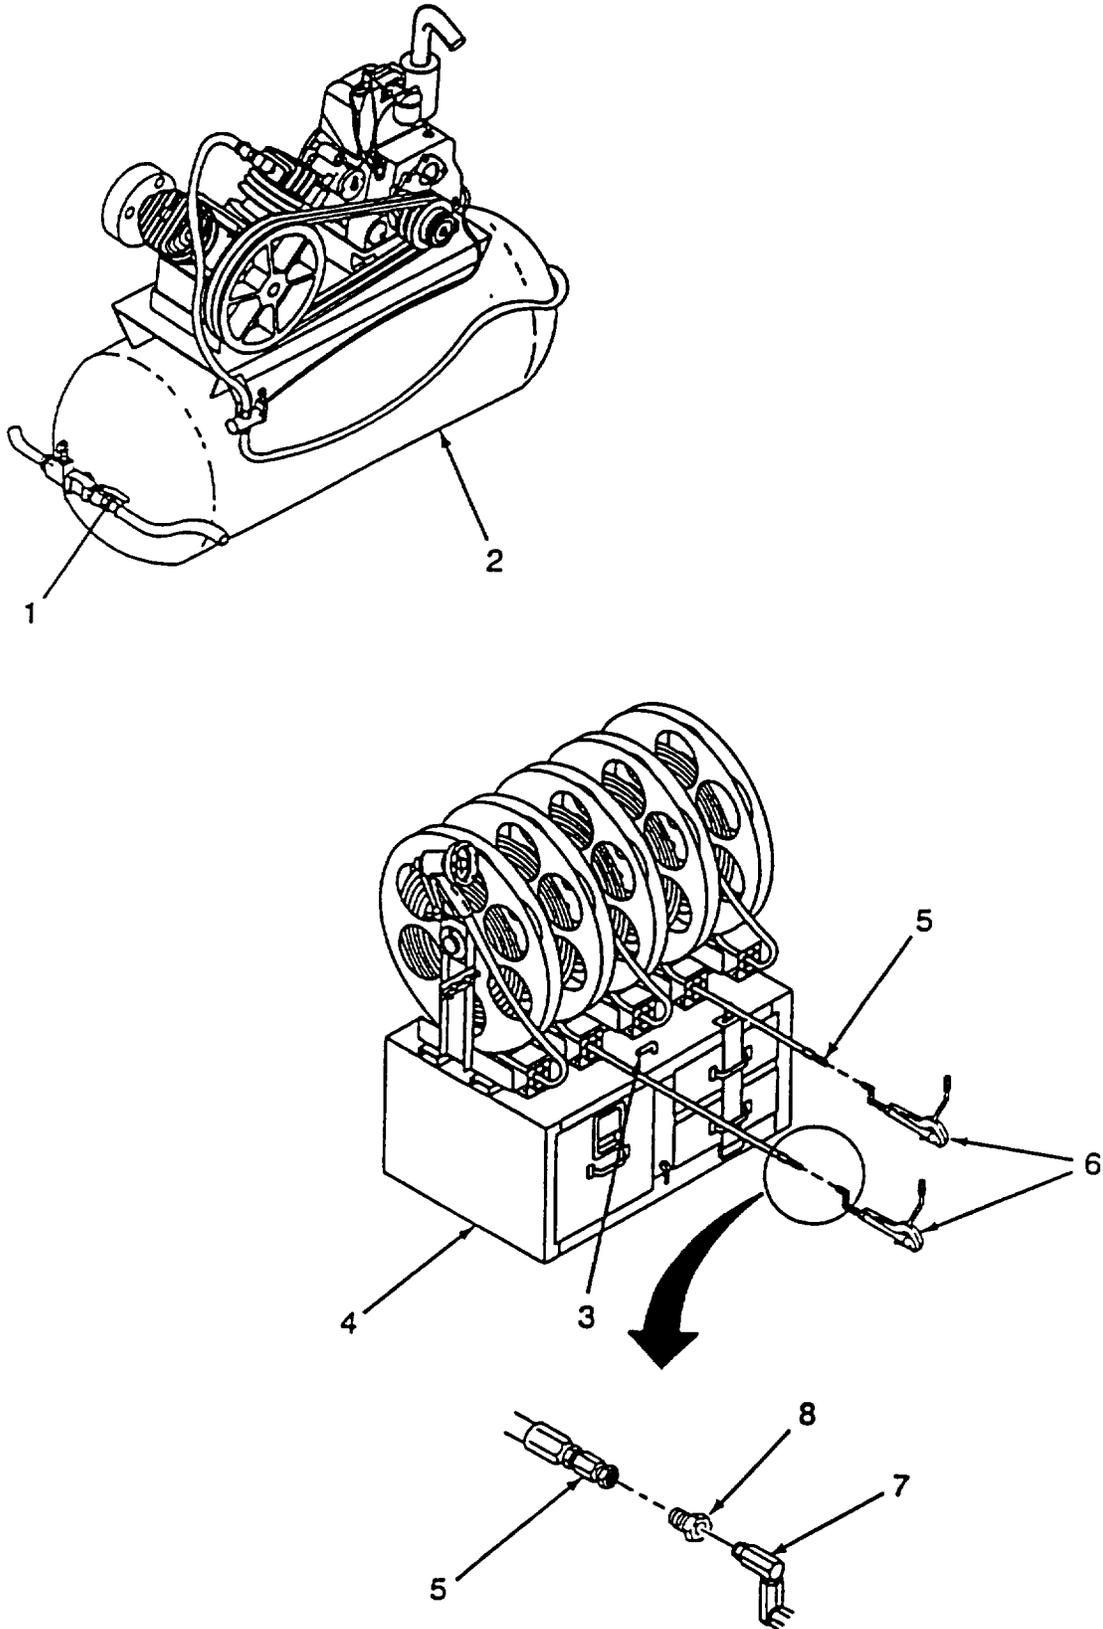

Figure 4-13. Grease Control Valves
- a. Removal. (Refer to Figure 4-13).
- (1) Close ball valve (1) at end of air-receiver tank (2).
- (2) Vent pressure by opening valve (3) on reel cabinet assembly (4).
- (3) Vent pressure in lube pumps by opening ball valve on gear lube pump (Reference para. 2-9 f.).
- (4) Loosen female swivel (5) and remove grease valve (6) with z-swivel (7) and bushing (8).
- (5) Remove z-swivel (7) and bushing (8) from grease valve (6). Repeat for other grease valve.